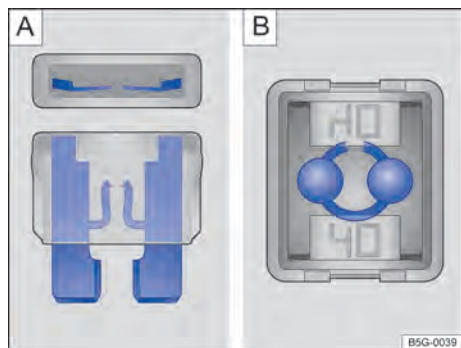

Fig. 177 Blown fuse: **A** flat fuse, **B** blocking fuse. ▶
- A blown *blade fuse* (ATO[®], MINI[®]) is detected from above or from the side through its transparent body by the melted metal strip → Fig. 177 [A].
- A blown *cartridge fuse* (JCASE[®]) is detected from above by the melted metal strip visible through the transparent housing → Fig. 177 [B].